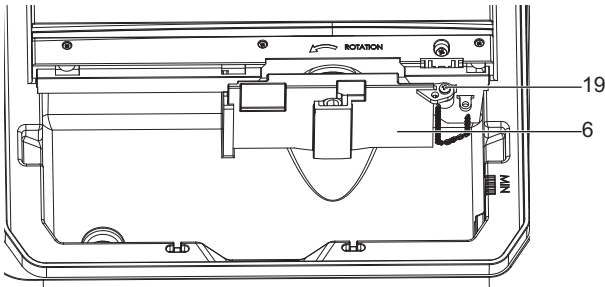

Fig. 3
- > Loosen screw (19) and pull off lower protective guard (6). (Refet to Fig. 3)
- > Remove the screw (26) and washer (27) from the metal bracket (16).